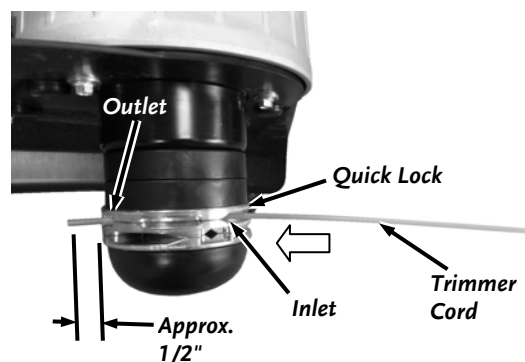

Figure 7
1. Insert the end of a Trimmer Cord into the inlet hole (larger slotted cutout) push it in until the end protrudes out the other side approximately 1/2" (**Figure 7**).
**Note:** The following steps change the cutting height by 3/4" increments. The lowest cutting height is shown in **Figure 7**.